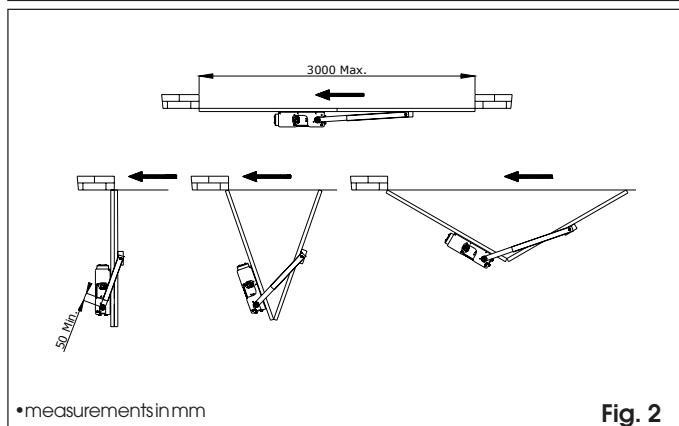
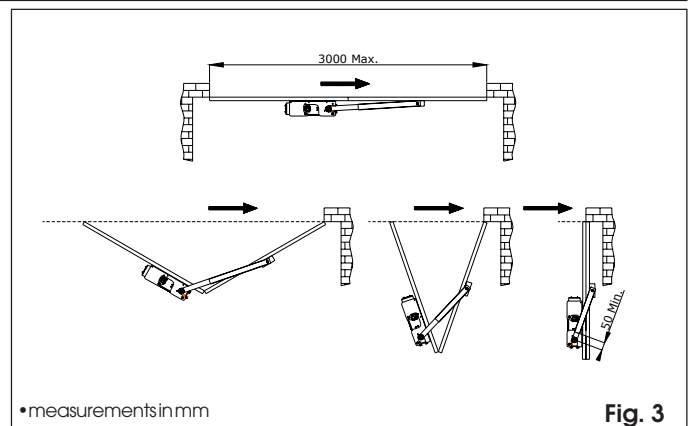

Fig. 2
Fig. 3
Gearmotor overall dimension	see fig.2
1) The operator is installed on the hinged panel directly to the pilaster (fig. 2) or, when the door is open, if there is not enough space behind the door for the operator, it should be installed on the outermost panel (fig. 3). The installation dimensions are valid in both cases.
- 8) If necessary, shorten the sheath to remain within the limit of 50 mm as indicated in fig. 2 and fig. 3. Note: the sheath and the internal element must have the same length.